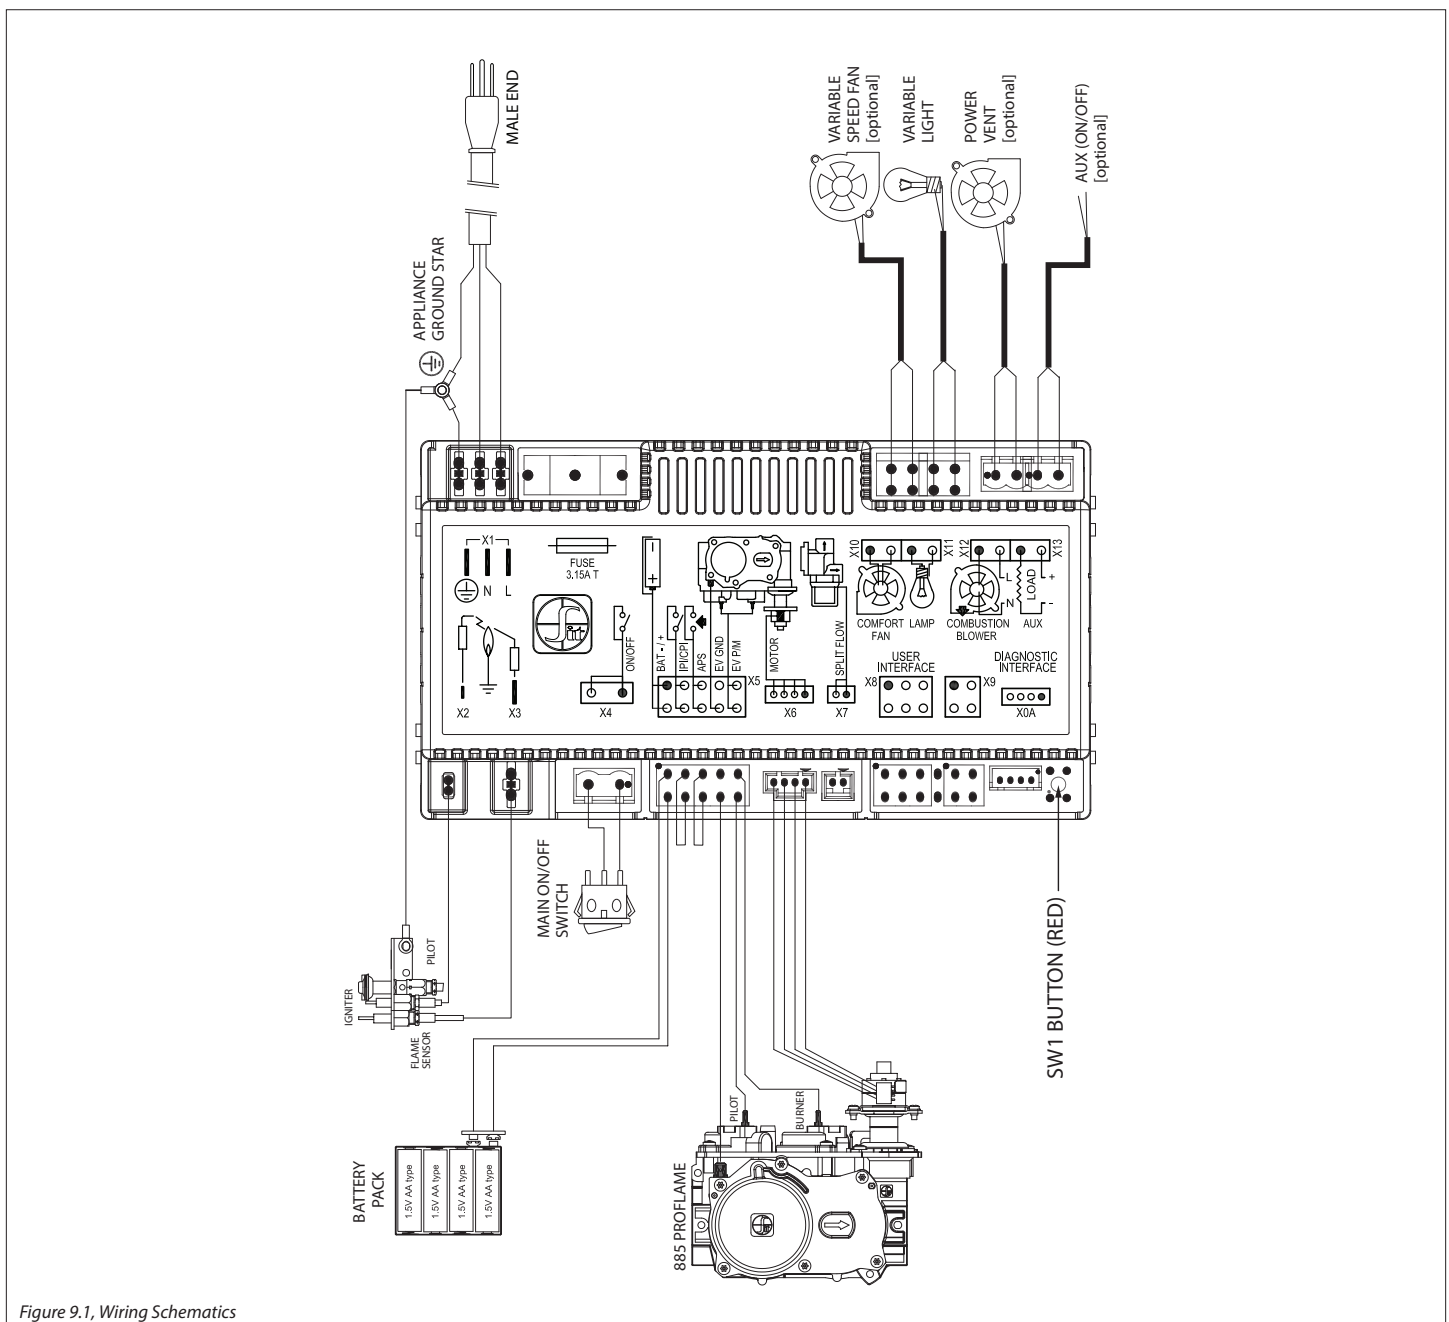

Figure 9.1, Wiring Schematics
9. Plug the fan cord into the receptacle on the IFC control module. See Section Figure 9.1, Wiring Schematics on page 48.